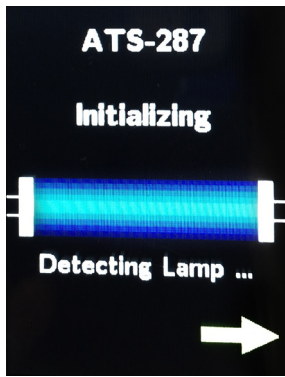

fig 1
3. Upon start up the UV lamp Detector and Timer circuit board will perform a self diagnostic test. When power is applied the circuit board will perform an output check to see if lamp or probe is connected. Once detected, the lamp will light and go into an approximate 2 minute lamp optimization period. **(as shown in fig 1 - 1D)**